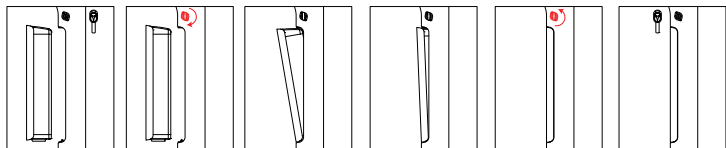

Figure 5
**Step 2:** Use the key to unlock the battery (see Fig. 5). Insert the key into the battery lock hole and turn the key clockwise (about 170°) until you hear a click and the battery pops out. Continue to turn the key until you hear another click, which means the battery is fully released and can be taken out.